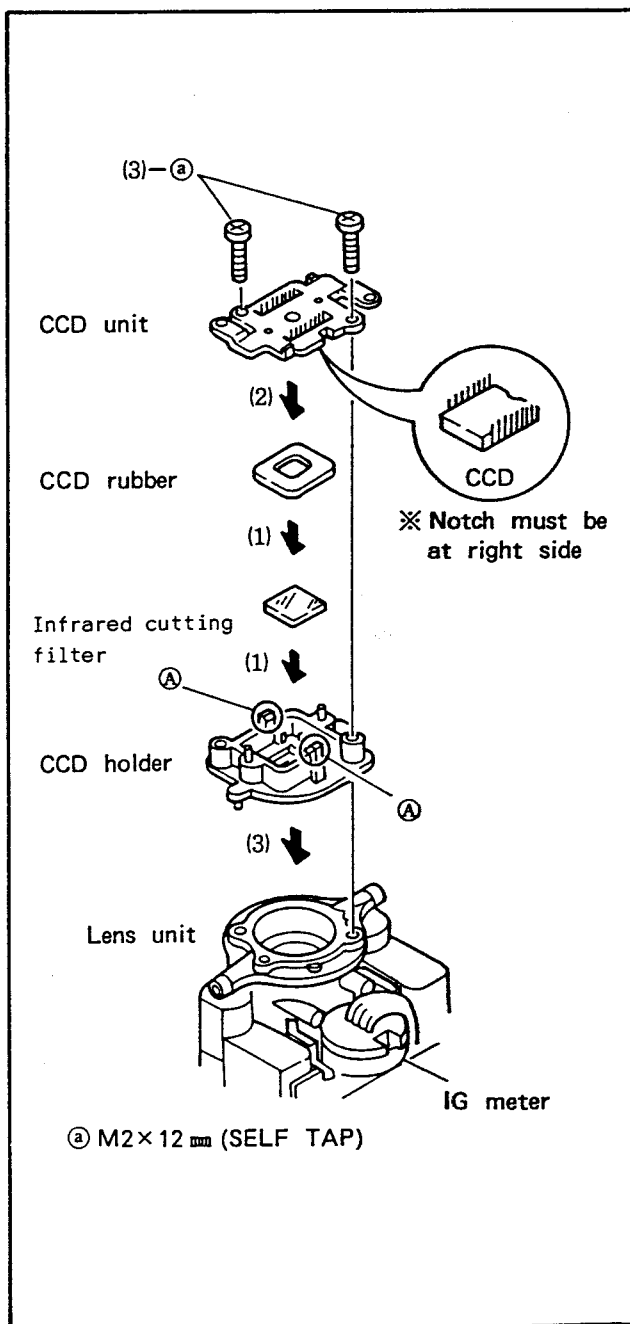

Fig. II-19
- (1) Install the infrared cutting filter and then the CCD rubber on the CCD holder.
- (2) Install the CCD unit on the CCD holder.
- * Notes: 1. Check the directivity referring to the Fig. II-19.
2. Push the unit until the two hooks (A) are completely hooked.
- (3) Install the CCD holder on the lens unit, and fix it with two screw (a)s.
- * Note: Check the directivity referring to the Fig. II-19.